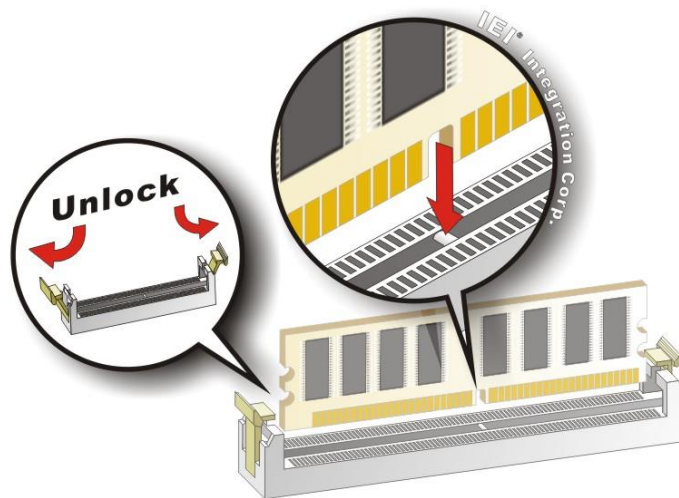

Figure 3-8: DIMM Installation
To install a DIMM, please follow the steps below and refer to **Figure 3-8**.
- Step 1: Open the DIMM socket handles.** Open the two handles outwards as far as they can. See **Figure 3-8**.
- Step 2: Align the DIMM with the socket.** Align the DIMM so the notch on the memory lines up with the notch on the memory socket. See **Figure 3-8**.
- Step 3: Insert the DIMM.** Once aligned, press down until the DIMM is properly seated. Clip the two handles into place. See **Figure 3-8**.